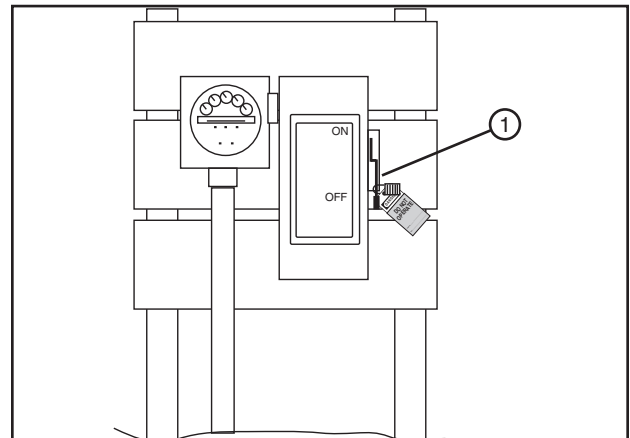

Figure 43-2 1. Public Power Service Disconnect
3. SHUT OFF and LOCK the public power service disconnect to the irrigation machine. FILL OUT the blue (OSHA safety color code) tag and attach to the disconnect after locking. See figure 43-2.